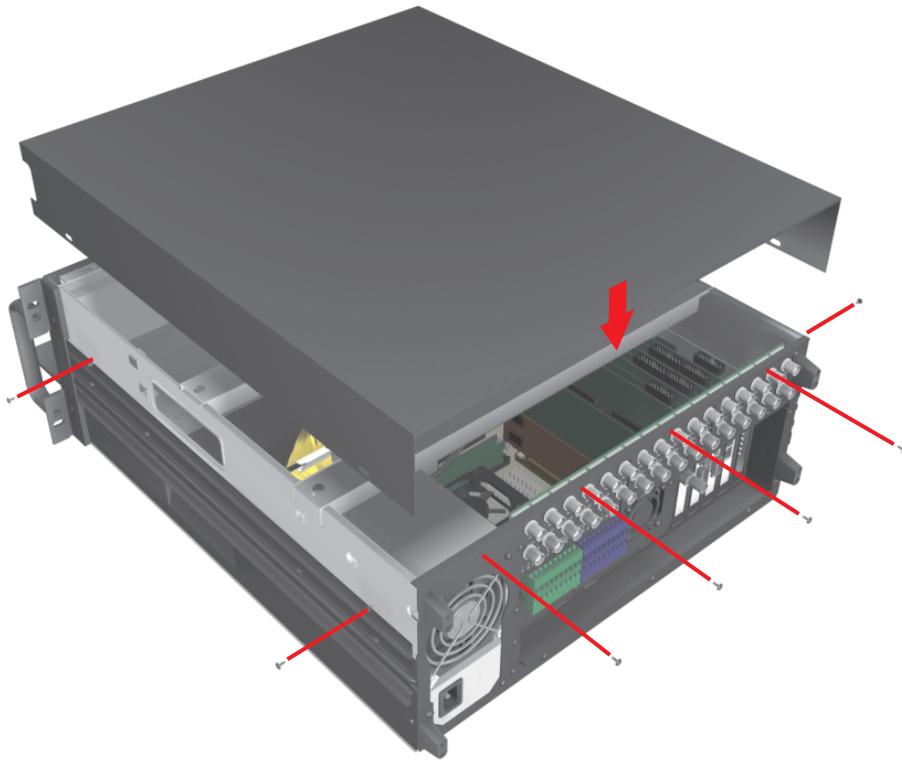

Figure 14. Replacing Chassis Cover
2. Replace the chassis cover using the same screws you removed from the side and rear of the unit. Refer to Figure 14.